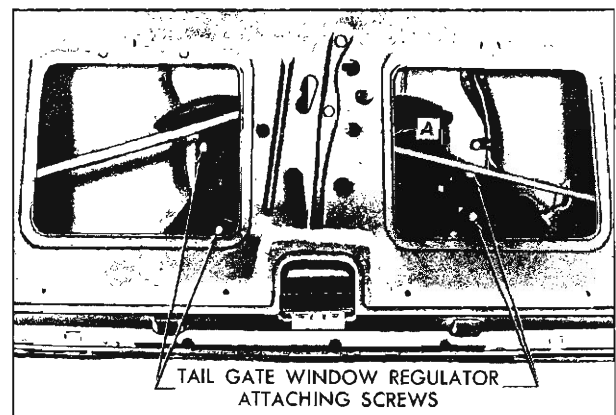

Fig. 85—Tail Gate Window Regulator
2. To correct a condition where the glass is "cocked" in the glass run channels, loosen window regulator attaching screws (fig. 85), rotate regulator assembly clockwise or counterclockwise, as required, to eliminate "cocked" condition.
2. Detach tail gate lock remote control right connecting rod from remote control at "A" (fig. 85).
4. Remove regulator attaching screws through access holes at locations shown in Figure 85. Remove regulator assembly through large access hole.